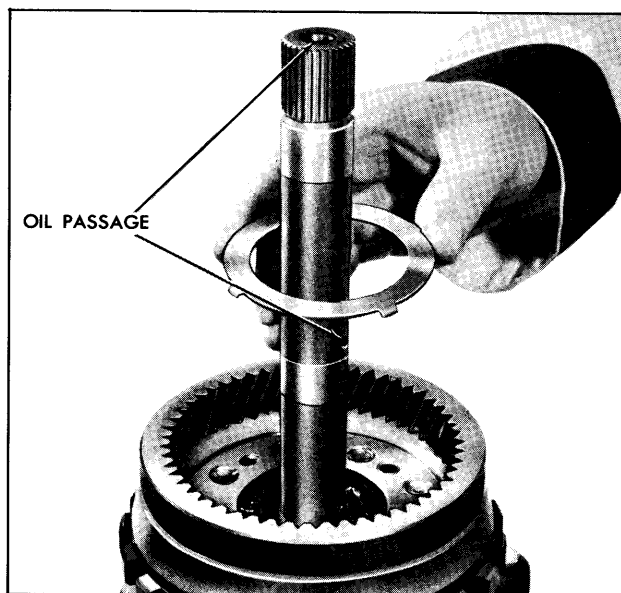

Fig. 7E-91 Removing Output Carrier Thrust Washer
11. Remove output flange. (Fig. 7E-93)